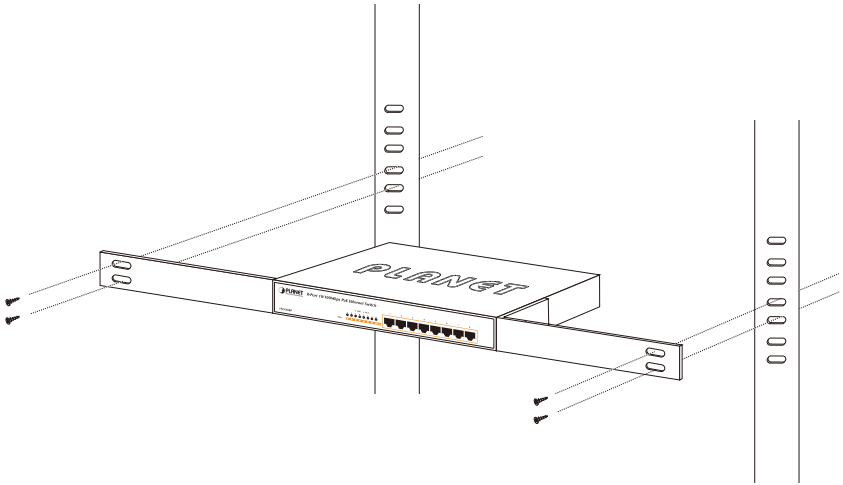

Figure 3-3: Mounting the Switch in a Rack
Step5: After the brackets are attached to the Switch, use suitable screws to securely attach the brackets to the rack, as shown in Figure 3-3.